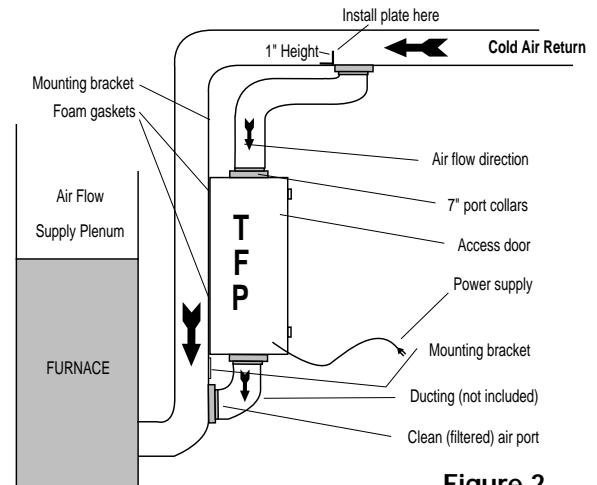
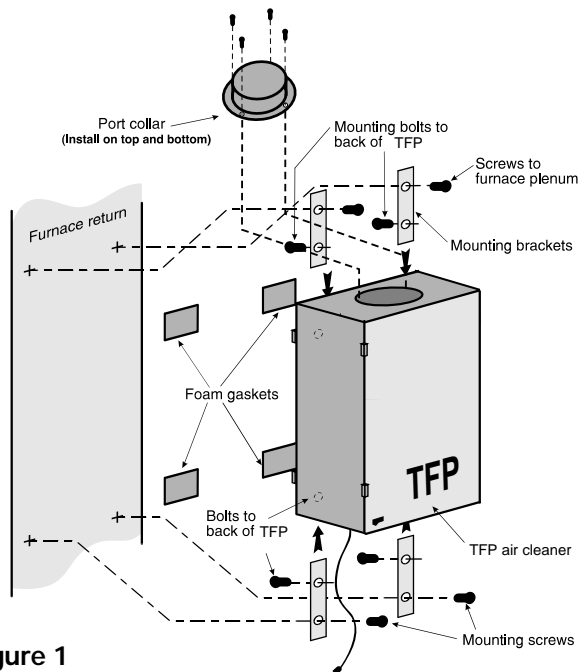

Figure 2
Figure 1
1. Install 7" port collar (provided) on top and bottom of TFP (Fig. 1). Use (4) 8/32" X 3/8" screws (provided).
3. Remove the 4 mounting bolts from the back of the TFP cabinet. (Fig. 1)
6. Install the (4) 8/32" X 3/4" mounting screws (provided) through the brackets and into position. Tighten and secure.
8. Cut 2 - 7" holes in the plenum. Install ducting to join TFP to the return air plenum (Fig. 2).